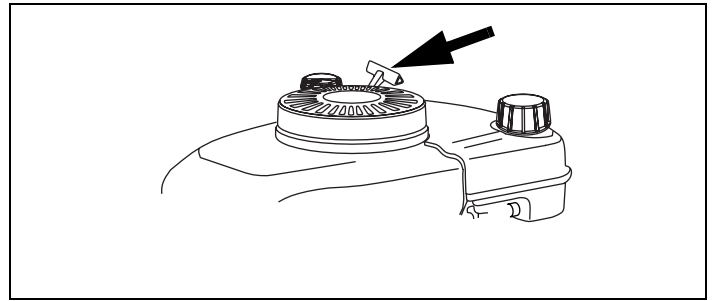

Figure 14. Recoil Starter Cord Handle
6. Grasp starter cord handle. See Figure 14.